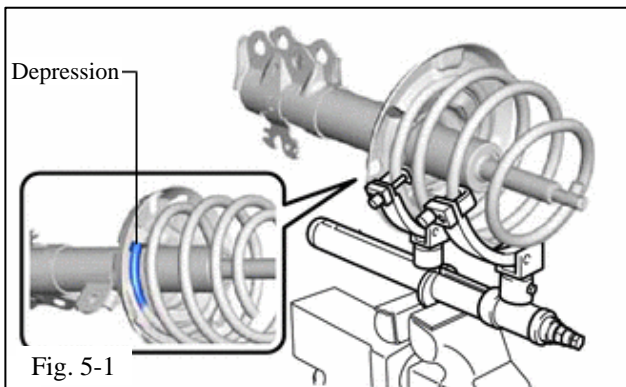

Fig. 5-1
- (a) Install the front TRD spring (Fig. 5-1).